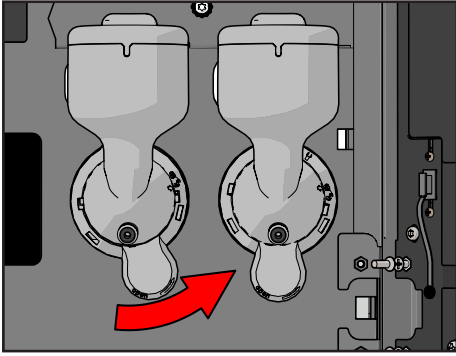

Figure 39.
9. Turn the washer anticlockwise to the open position (see Figure 39).